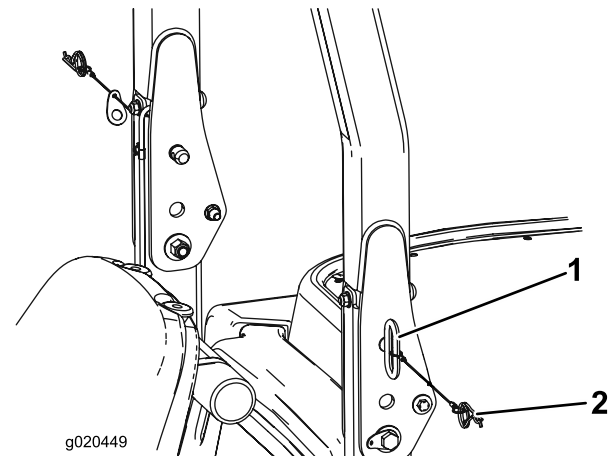

Figure 29
1. To lower the roll bar, remove the hairpin cotters and the 2 pins (Figure 29).